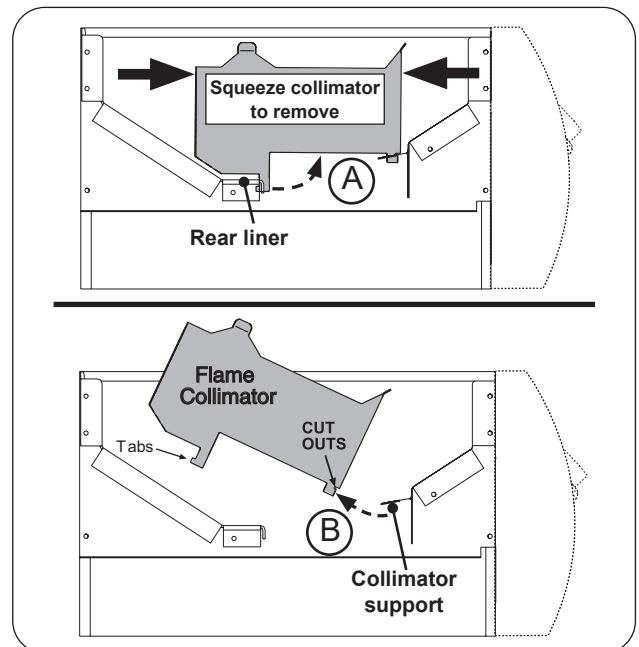

Fig. 46-2 Flame collimator removal
2. Squeeze the collimator to detach the rear tab from the rear liner as shown in Fig. 46-2, A, and lift up the rear portion of the collimator.
3. Detach the collimator from the front collimator support and completely remove the collimator as shown in Fig. 46-2, B.